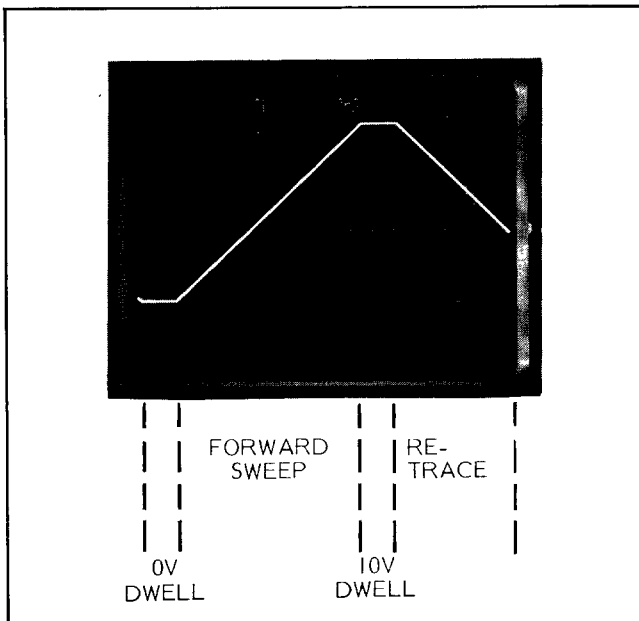

Figure 5-8. A2 Sweep Ramp
- (d) adjust A2R10 for a forward sweep duration (Figure 5-8) of  $1.0 \pm 0.1$  seconds.